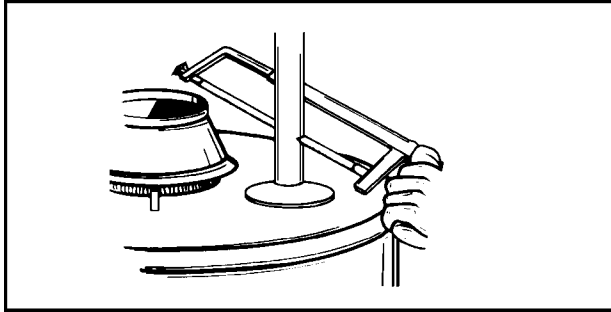

Figure 9
6. If you have copper piping to the water heater, the two copper water pipes can be cut with a hacksaw or tubing cutter approximately four inches away from where they connect to the water heater. See Figure 9. This will avoid cutting off pipes too short. Additional cuts can be made later if necessary. Disconnect the temperature-pressure relief valve discharge pipe. When the water heater is drained, disconnect the hose from the drain valve. Close the drain valve. The water heater is now completely disconnected and ready to be removed.